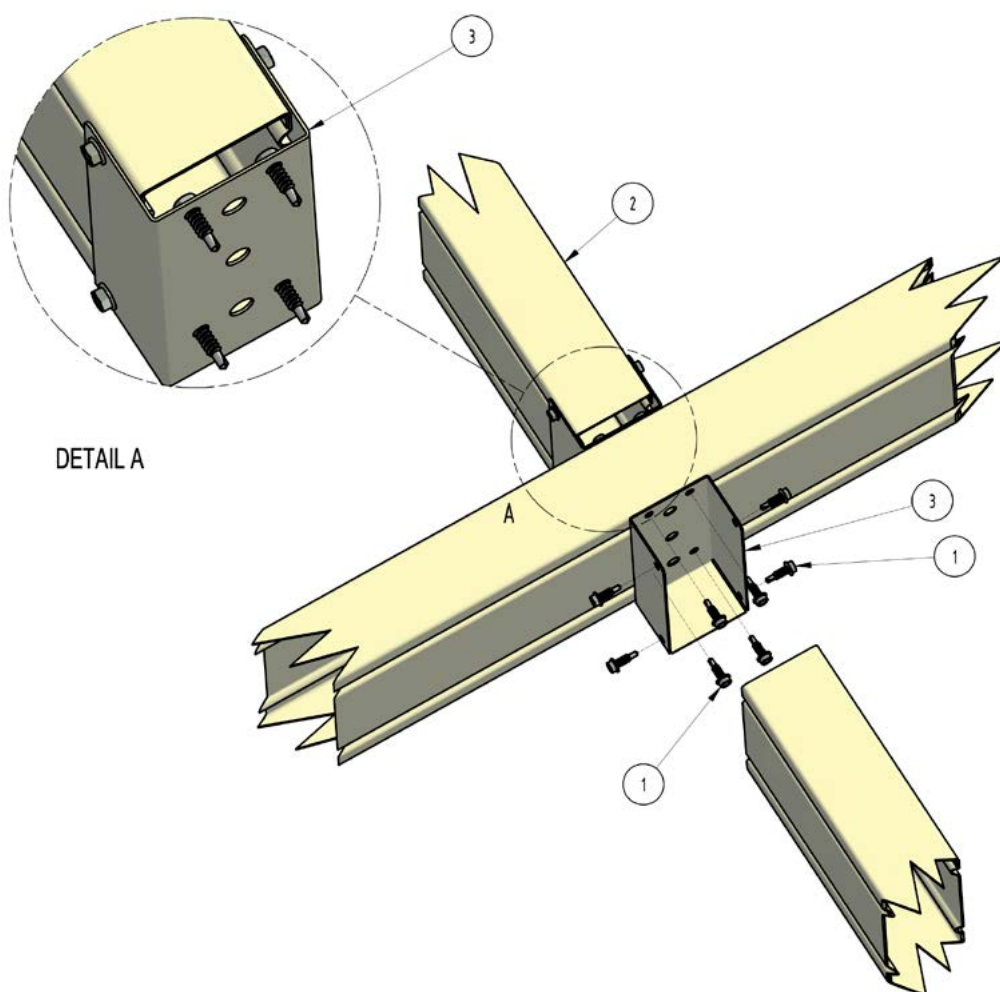

Figure A42
STEP 10**BEAM TO BEAM CONNECTION DETAILS****Steel Beam to Beam Connection (See Figure A42)**